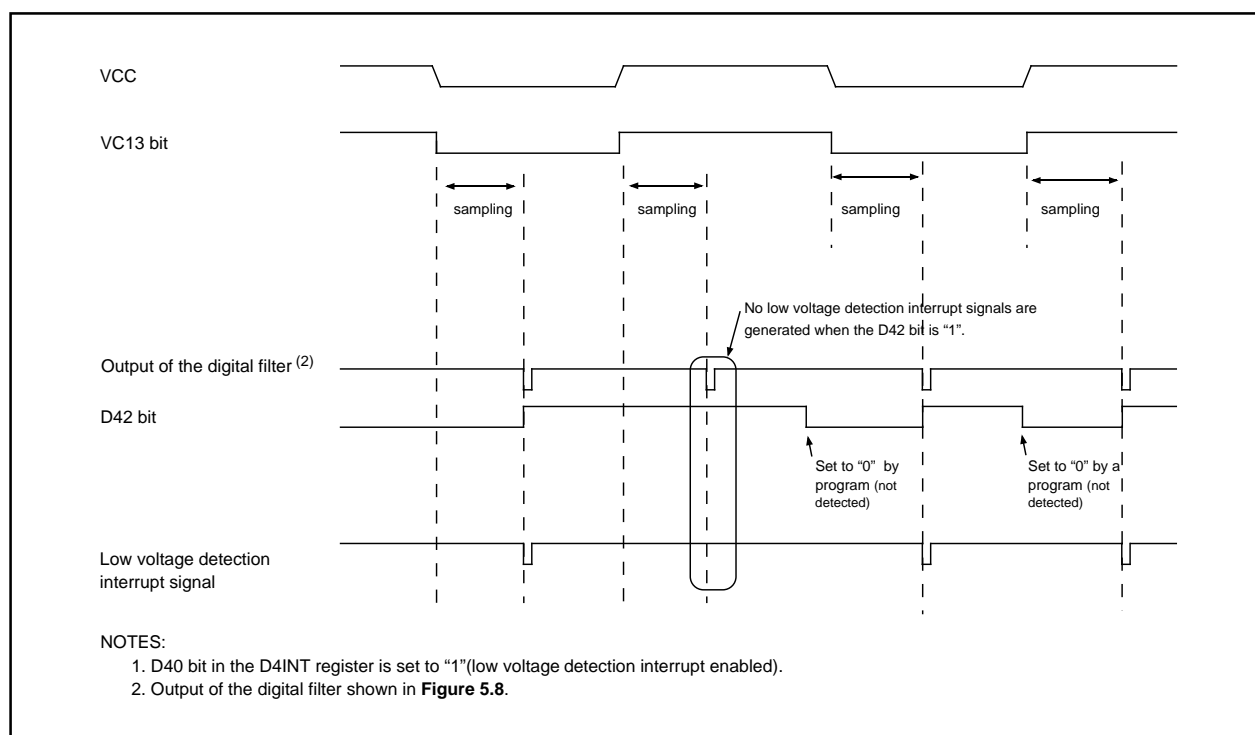

Figure 5.9 Low voltage Detection Interrupt Generation Circuit Operation Example
3. An interrupt request for voltage reduction is generated a sampling time after the value of the VC13 bit has changed. Refer to the **Figure 5.9** for details.